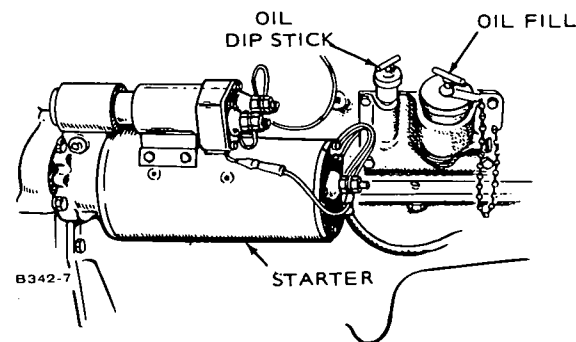

FIGURE 22. OIL FILL AND DIPSTICK LOCATIONS
2. Fill crankcase to "L" (low) mark on dipstick (Figure 22).